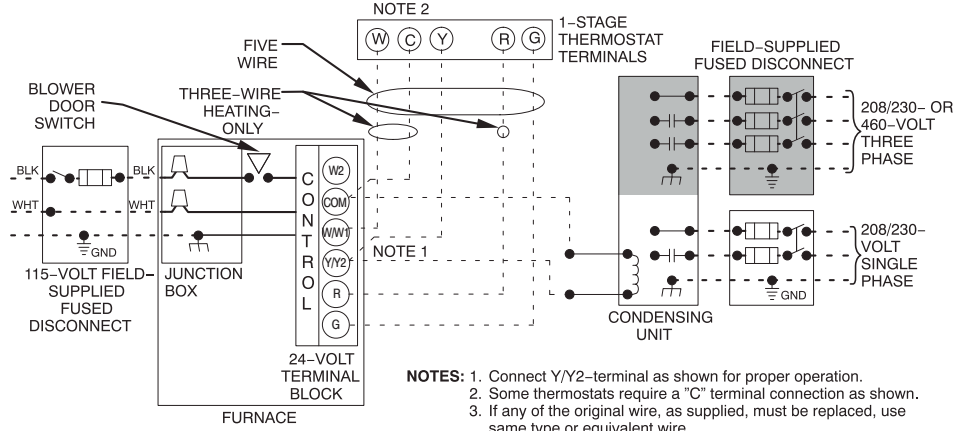

Fig. 37 - Typical Two-Stage Field Wiring Diagram
6. Connect power cord power and neutral leads to furnace power leads as shown in Fig. 37.
5. Connect field power and neutral leads to furnace power leads, as shown in Fig. 37.
Make field 24-v connections at the 24-v terminal strip. See Fig. 38. Connect terminal Y/Y2 as shown in Fig. 37 for proper cooling operation. Use only AWG No. 18, color-coded, copper thermostat wire.